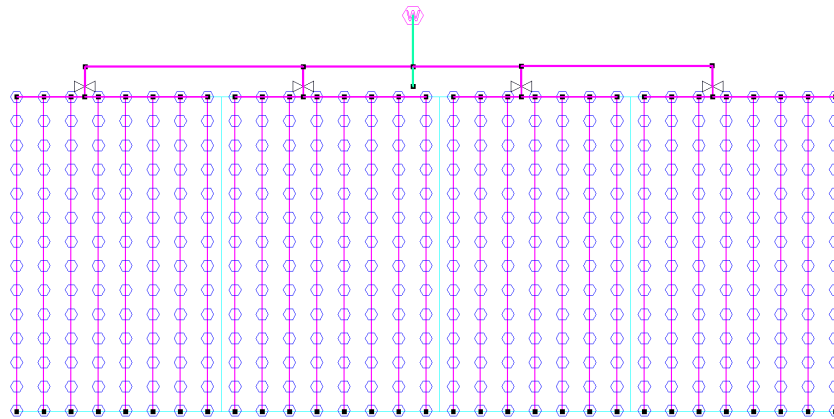

Figure 4-47
- Run a mainline pipe from the existing mainline to the left and to the right above the new valves. Now select **Tools/Connect Valves** for IRRICAD to automatically connect mainline pipe to the new valves. See Figure 4-47. Select and delete the center mainline pipe below the intersection of the new mainline pipes.